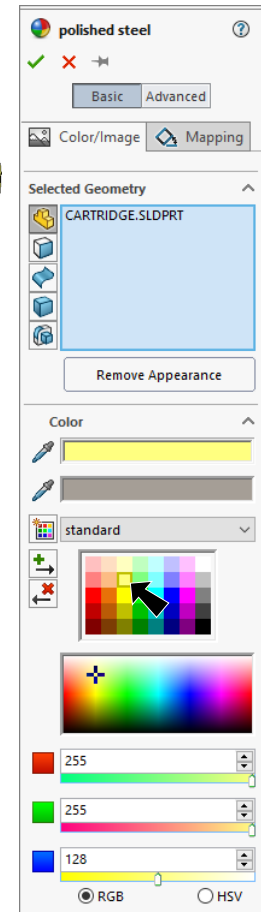

Fig. 17
Step 2. In the Appearances Property Manager under **Color**, Fig. 17 click **second from top Yellow** swatch click **OK**.